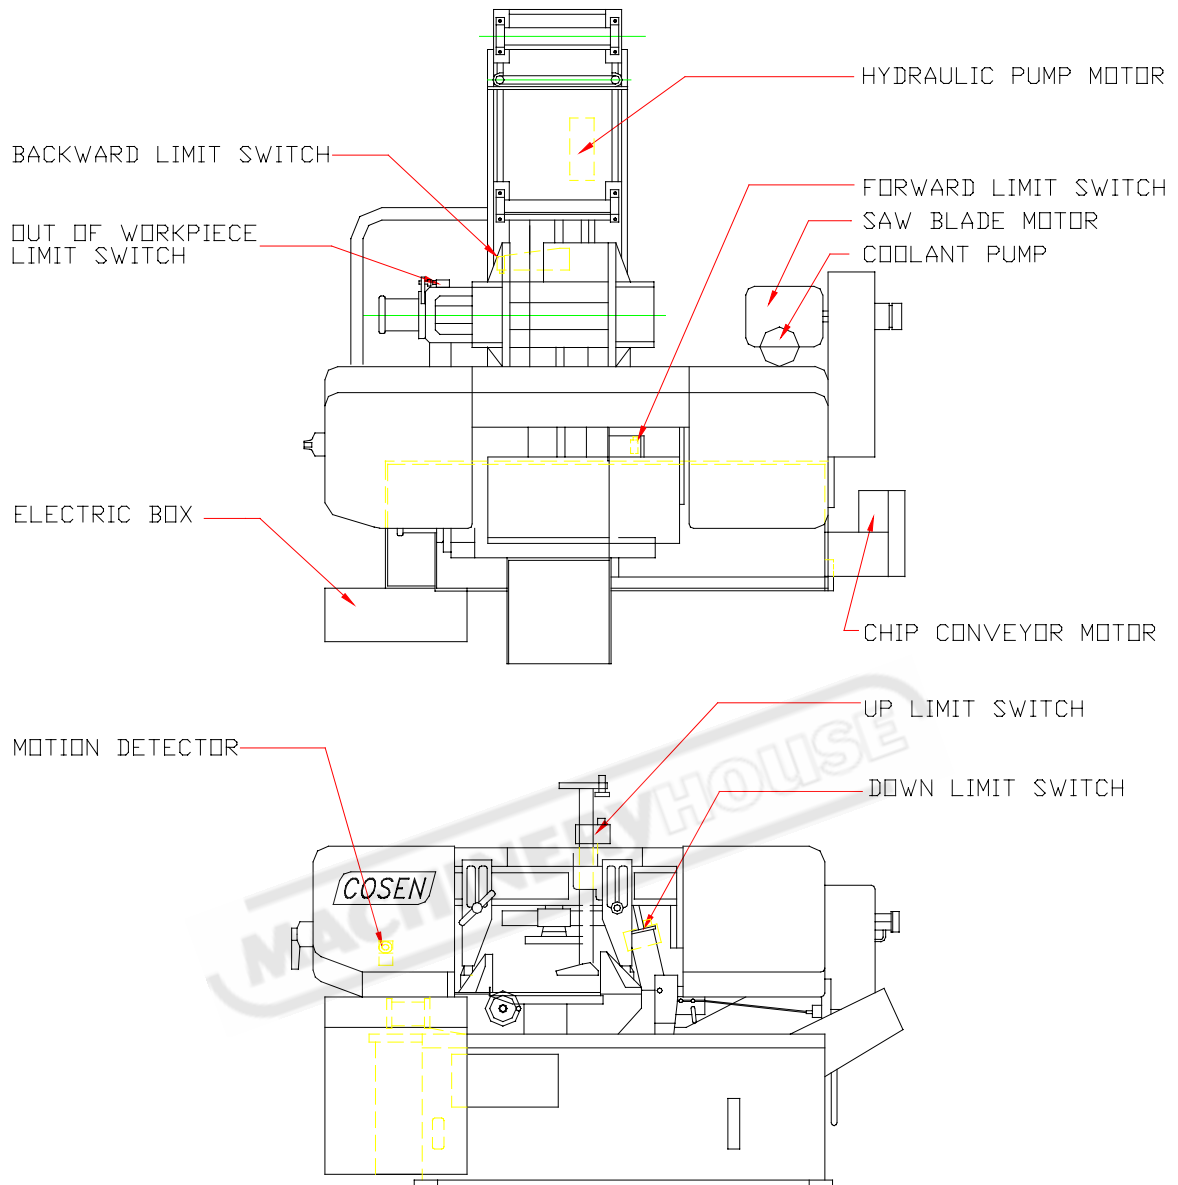

Fig. 4.1 The electrical components layout on the machine
- The electrical components on the whole machine is shown in Figure 4.1.